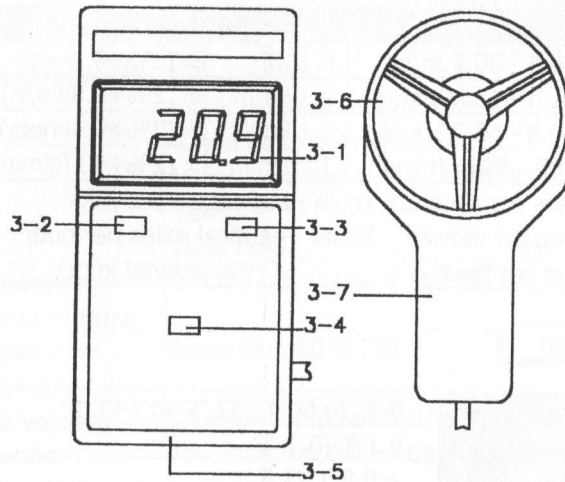

Fig. 1
- 1) Select the " Off/On/Hold Switch " (3-2, Fig. 1) to the " On " position.
- 2) Select the " Function Switch " (3-3, Fig. 1) to the " ANEMOMETER " position.
- 3) Select the " Range Switch " (3-4, Fig. 1) to the " m/s ", " km/h ", " ft/min " or " knots " position according to the measuring requirement.
- 4) Hold the " Vane Probe Handle " (3-7, fig. 1) by hand & let the " Vane Probe Head " (3-6, Fig. 1) is opposite to the measuring air flow source, then the " Display " (3-1, Fig. 1) will show air velocities directly.
- 5) During the measurement, it will hold the display values if select the " Off/On/Hold Switch " (3-2, Fig. 1) to the " Hold " position.
- 2) Select the " Function Switch " (3-3, Fig. 1) to the " °C " or " °F " position.
Select the " Range Switch " (3-4, Fig. 1) to the " Temp " position.
- 3) The meter is designed intend to measure the environment air temperature. There is built one temp. sensor (precision thermistor) into the center of the " Sensor Head " (3-6, Fig. 1).
When do the temperature measurement, it is necessary to hold the Sensor Handle (3-7, Fig. 1) by hand & let the Sensor Head is opposite to the measuring air source, then the display will show air temperature directly.
- 4) During the measurement, it will hold the display values, if slide the " Off/On/Hold " selector (3-2, Fig. 1) to the " Hold " position.
- 2) Loose the " Battery Cover Screw " (3-5, Fig. 1), slide the battery cover away from the instrument and remove the battery.